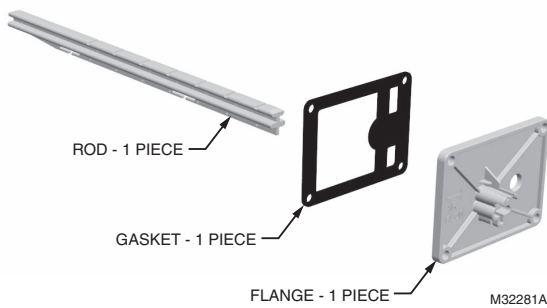

Fig. 2. Duct Mounting Kit (Part No. 50053060-001).
The kit contains a rod to hold the sensor in the duct, a flange to secure the sensor rod to the duct wall and fill the hole and a gasket to prevent air from leaking through the duct wall. There are five (5) kits in each bag assembly. See Fig. 2.